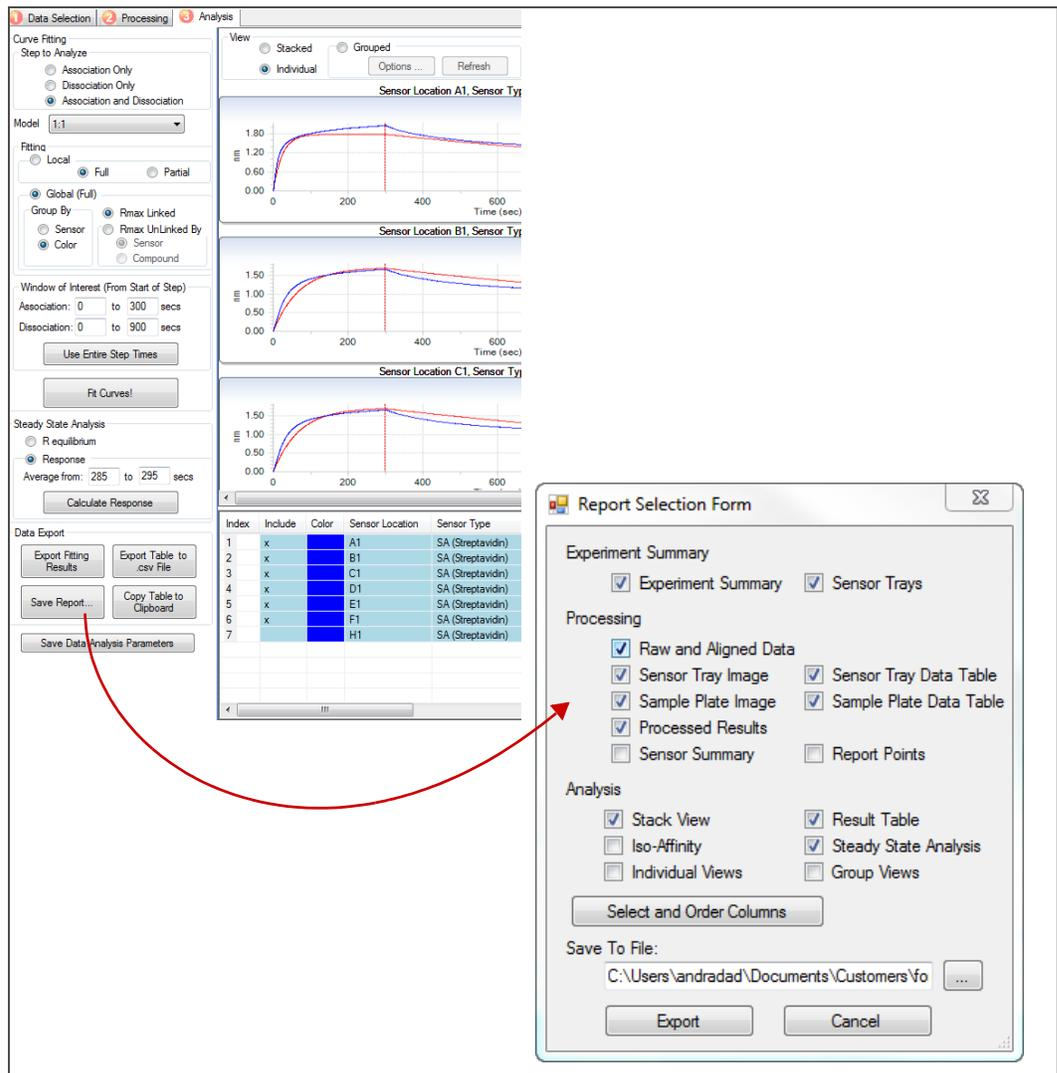

Figure 5-64: Report Selection Form
1. On the menu bar **File > Save Report**. Alternatively you can click **Save Report** in the Data Export section of the Analysis tab (Figure 5-64).
1. In the Data Export section of the Analysis tab, click **Save Report > Select and Order Columns > OK** (Figure 5-64).
3. In the Report Selection Form dialog box (Figure 5-64), click **Export**. The Results tab will now display the selected columns and the desired column order.